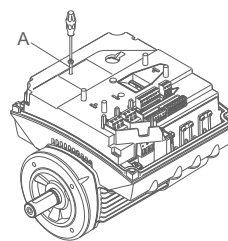

Fig. 16 Removing the securing screw
3. Remove the securing screw (fig. 16, A).
5. Fit and tighten securing screw (fig. 16, A) to 1.3 Nm.